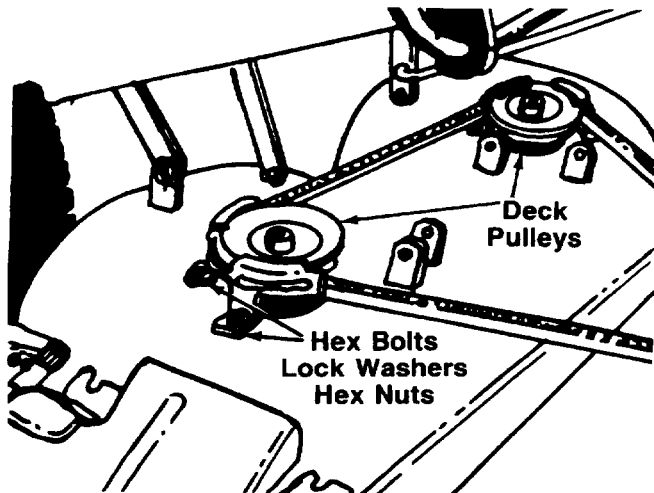

FIGURE 26.
8. Remove the belt guards at each deck pulley by removing the hex bolts, lock washers and hex nuts. See figure 26.